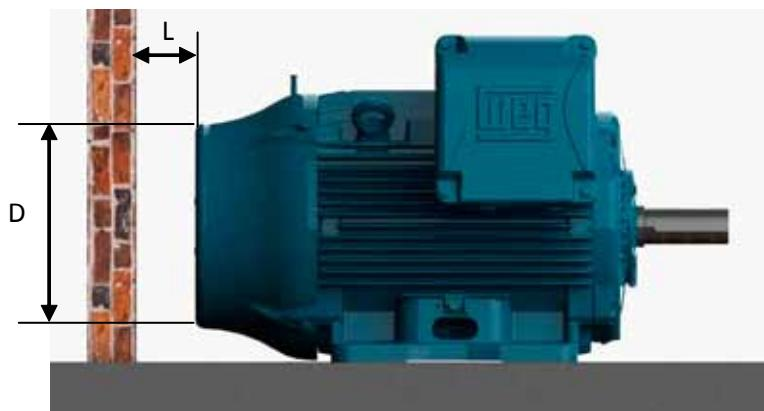

Figure 7-1- Minimum clearance to the wall
- Ensure that the air inlet and outlet opening are not blocked. The minimum clearance to the nearest wall (L) should be at least $\frac{1}{4}$ of the fan cover diameter (D), see Figure 7-1. The intake air temperature must be at ambient temperature.